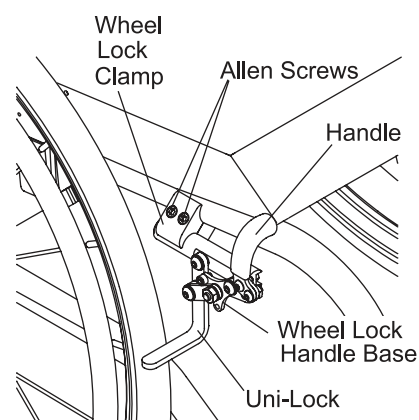

Figure 69
1. Loosen the two Allen Screws in the wheel lock clamp. See Figure 69.
2. Slide the old Uni-Lock out of the wheel lock clamp. See Figure 69.